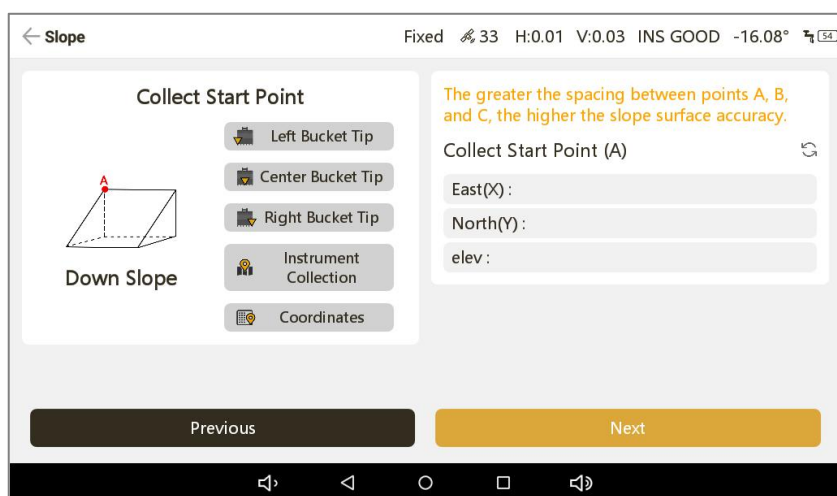

Figure 4-17
Using the left bucket tip as an example, follow the software instructions to collect points **A**, **B**, and **C** in sequence (collecting coordinates with the left bucket tip means using it as the reference point; the same applies to the center or right bucket tip), as shown in Figure 4-17, Figure 4-18, and Figure 4-19. In a 'Down Slope' job, the elevation of point **C** must be lower than that of points **A** and **B** (in an 'Up Slope' job, point **C** must be higher than points **A** and **B**). When collecting point **C**, you need to specify whether it is the bottom point of the slope; you may choose to set it or not. You can also enter the 'Slope Ratio (i)' and 'Slope Height (H)' for corresponding configuration. The 'Slope Width' can be entered as needed or left unspecified. Points **A**, **B**, and **C** are any three non-collinear points on the slope used to generate the reference plane.